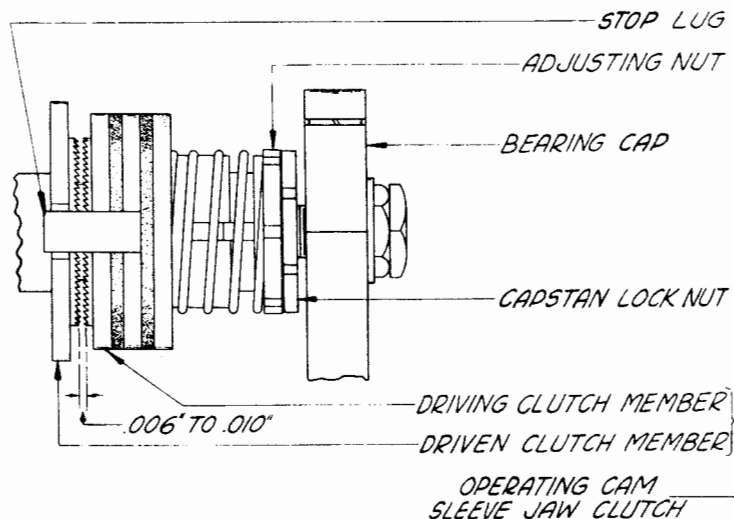

Figure 5
2.11 Main Clutch (Operating Camsleeve Jaw Clutch): With the operating camsleeve in the stop position (the driven clutch-member fully cammed out of mesh with the driving clutch-member), the clearance between the points of the opposite rows of clutch teeth should be minimum 0.006 inch, maximum 0.010 inch. See Figure 5.
2.14 Main-clutch Spring: With the stop-lugs in a horizontal position and with the two members of the main clutch in mesh, apply the push end of a scale to the driven member at the clutch-throwout camming surface and push in line with the shaft. It should require minimum 3 pounds, maximum 4 pounds to just separate the clutch members. See Figure 5.